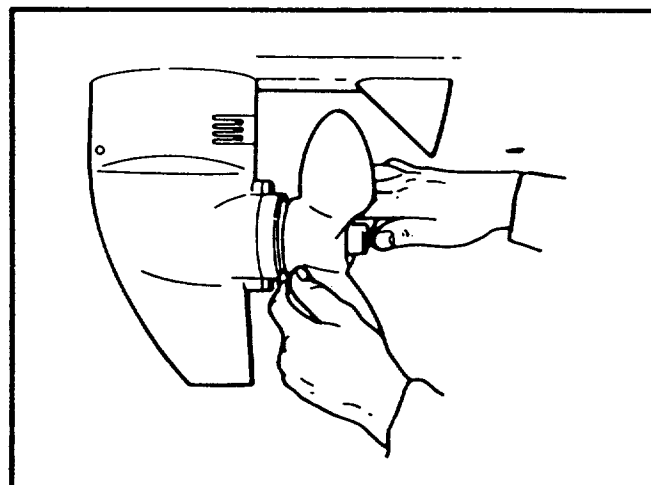

FIGURE 30
- Pull propeller straight back and off propeller shaft. If propeller is frozen to shaft, tap propeller gently with a block of wood (Figure 30).